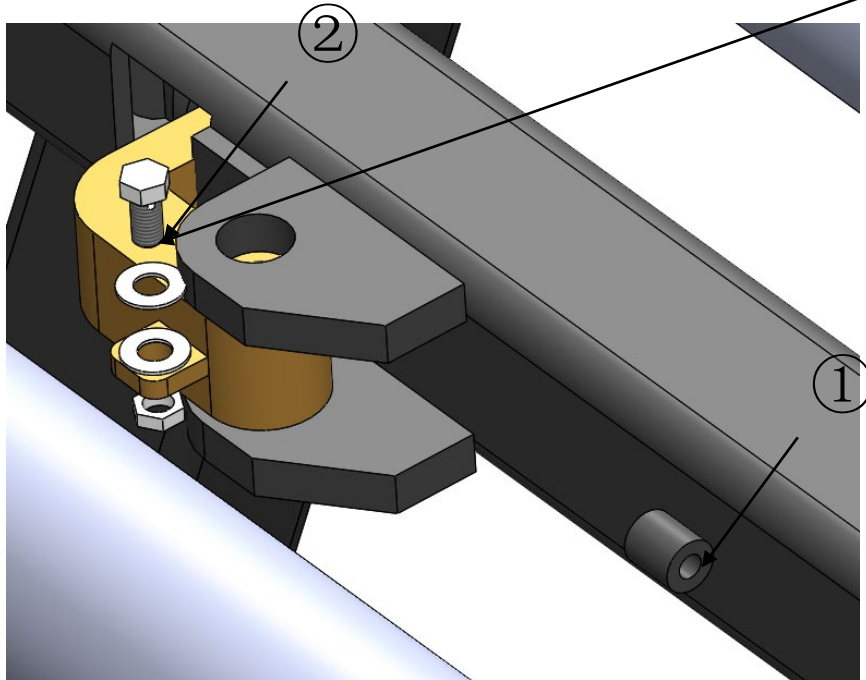

Fig. 9
1. Insert the Safety cable to the hole of the bolt of M8*16.(See Fig.9)